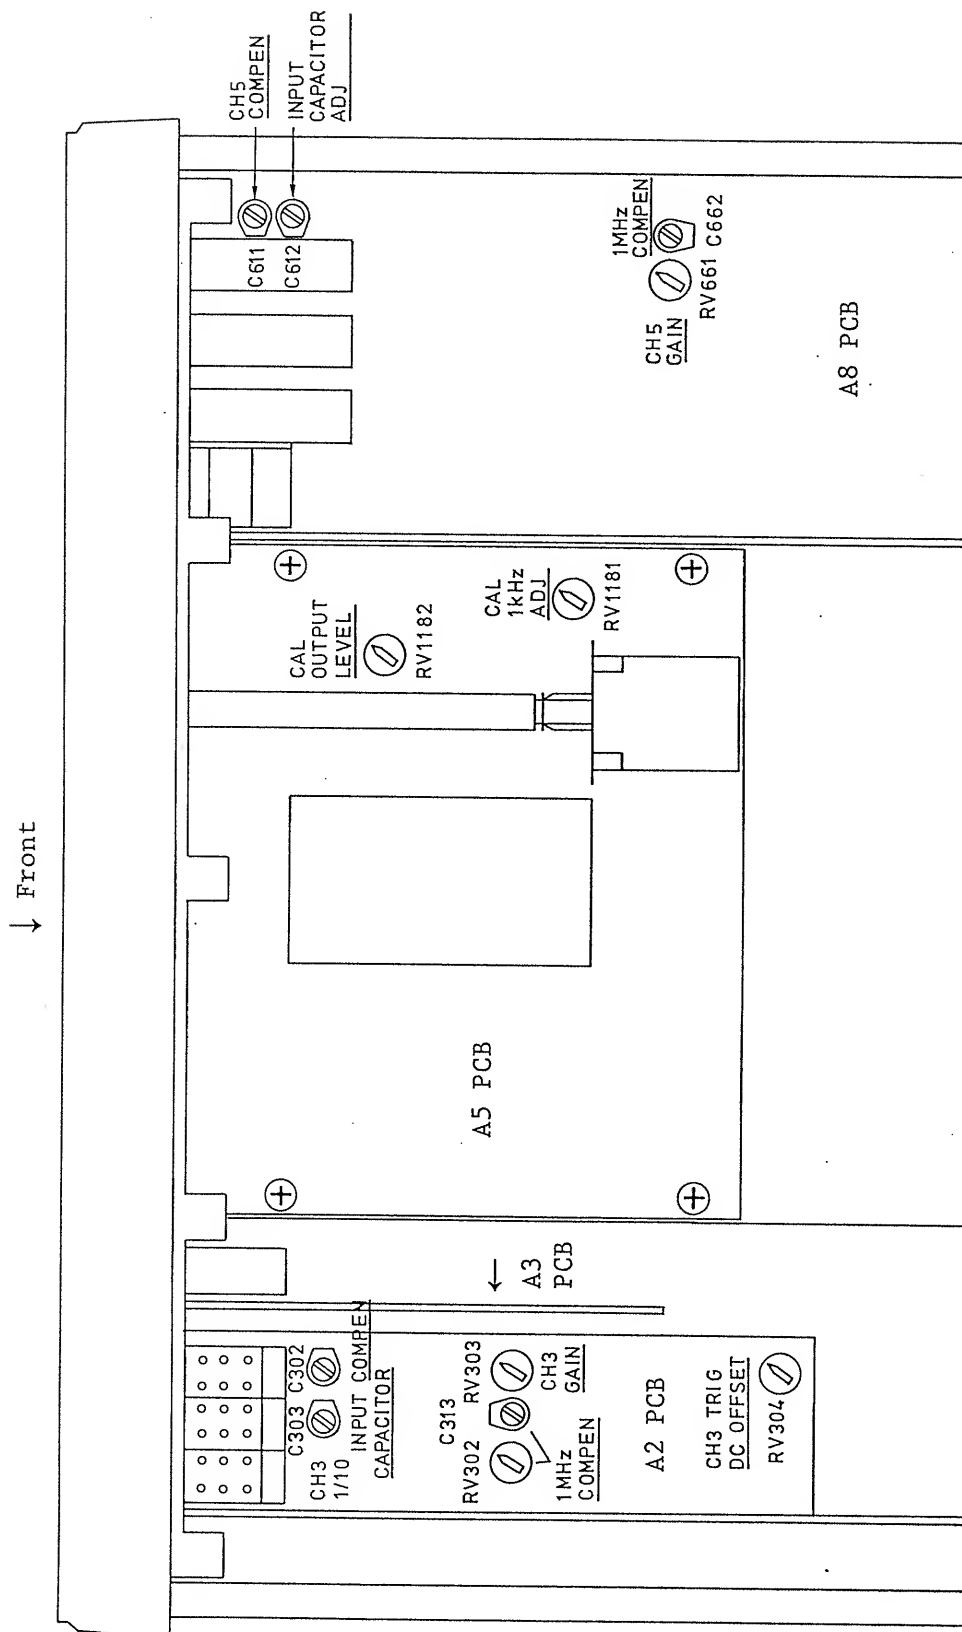

Figure 7-10 (Bottom view)
In a similar manner as is the case for "Adjustment of input ATT of CH1 and CH2," adjust C305 so that the 1/1 input capacitance becomes 20 pF \pm 2 pF. Next, adjust input capacitance compensation capacitor C303 and phase compensation capacitor C302 of 1/10 ATT. (See Figure 7-10.)
For this adjustment, adjust CH3 TRIG DC OFFSET (Figure 7-10, RV304) in a similar manner as is the case for "Adjustment of CH1 TRIG DC OFFSET."
- (1) Connect the CALIB output (43) to a frequency counter.
- (2) So adjust the CAL 1 kHz ADJ (Figure 7-10, RV1181) that the frequency counter 1 kHz.
- (1) Set at 200 mVp-p the signal of the generator used for "calibration of sensitivity" of Section 7.5. Apply this signal to the CH1 input terminal.
- (2) Display the signal on the screen with an amplitude of 8 DIV by adjusting the VOLTS/DIV switch (23) and VARIABLE knob (22).
- (3) Apply the 200 mV CALIB output to the CH1 input terminal. So adjust the CAL OUTPUT LEVEL (Figure 7-10, RV1182) that the signal is displayed with an amplitude of 8 DIV on the screen in the same manner as step (2) above.